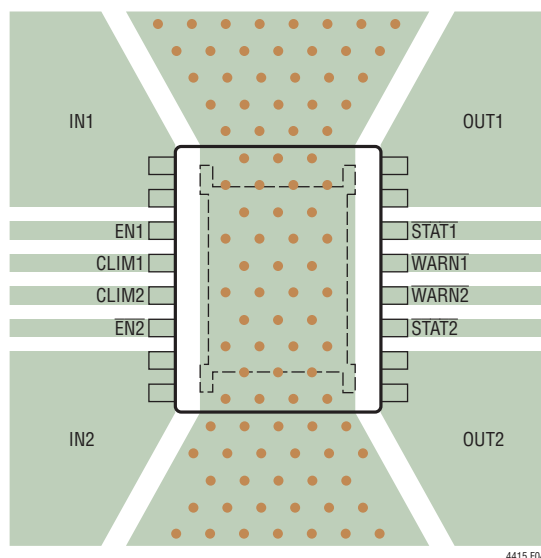

Figure 4. Example Board Layout for a Double-Sided PCB
1. Connect the exposed pad of the package (Pin 17) directly to a large PC board ground to minimize thermal impedance. Correctly soldered to a 2500mm2 double-sided 1oz copper board, the DFN package has a thermal resistance ( $\theta_{JA}$ ) of approximately 43°C/W. Failure to make good contact between the exposed pad on the backside of the package and an adequately sized ground plane results in much larger thermal resistance, raising the die temperature for given power dissipation. An example layout for double layer board is given in Figure 4. Via holes are used in the board under and near the device to conduct heat away from the device to the bottom layer.